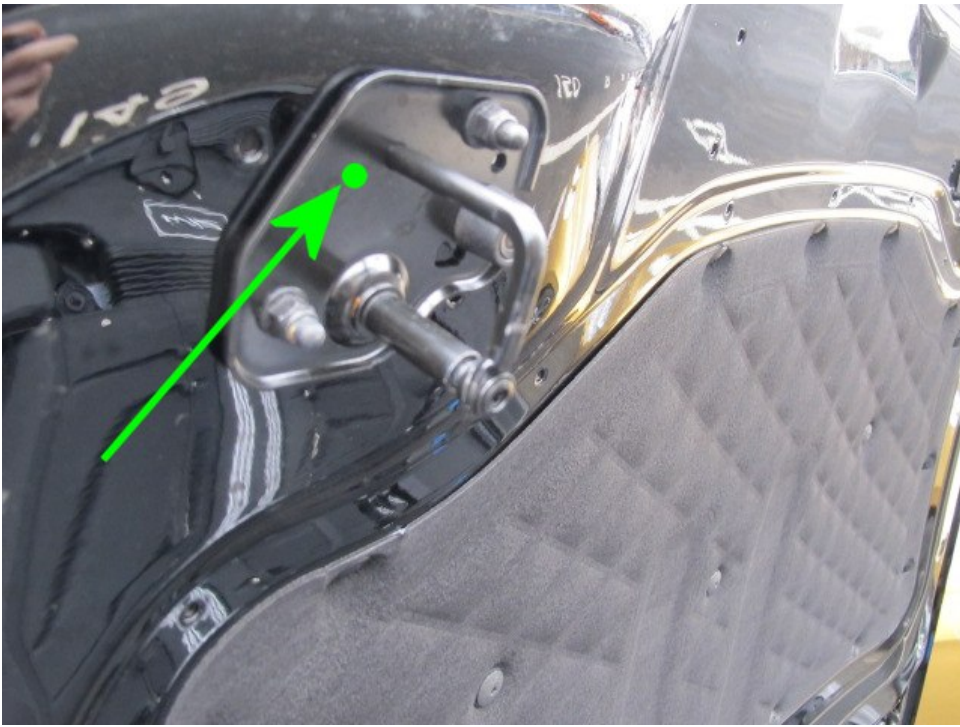

Figure 4
If the vehicle is not a ready-to-ship as repaired in the "Repair history" (EsaPro) check for the presence of a green campaign completion mark on the right hand bonnet attachment (Figure 4)
8) Place a green paint completion mark on the right hand bonnet latch striker (Figure 4)
Green campaign competition mark on the right hand bonnet attachment striker (Figure 4)